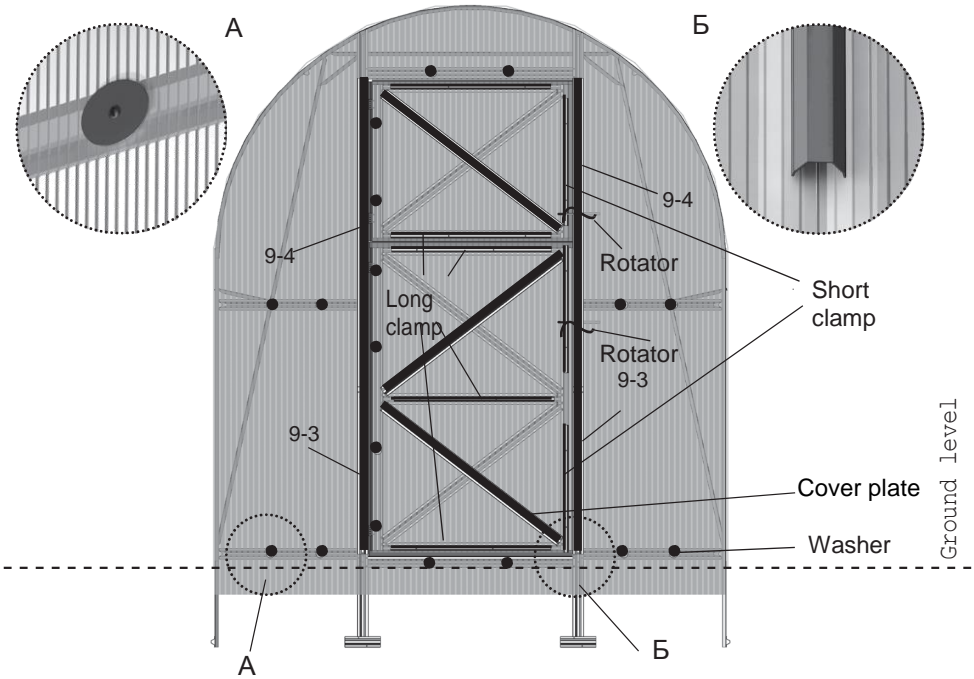

Fig. 21
7. Mount end washers and clamps in accordance with Fig. 21.